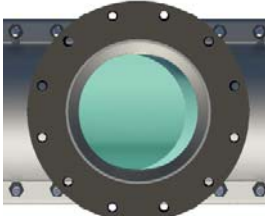

Figure 6
10. Check inside of fitting body outlet to ensure gasket is properly seated. Ensure completion plug set pins are flush with I.D. of the flange (See Figure 6).